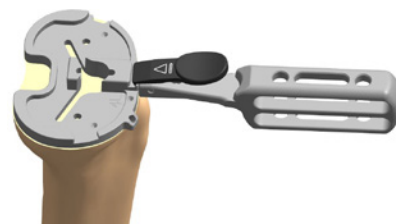

Figure 37
1. Select the baseplate trial based upon best fit and coverage on the resected tibia. Typically, this is one size below the femoral component size. Set position of the tibial baseplate based upon the anatomic landmarks of the tibia (best fit coverage and medial third of the tubercle). Alignment can be confirmed at this point by dropping an alignment rod through the EM Alignment Guide Handle. Pin the baseplate using one or two short headed pins (Figure 37).